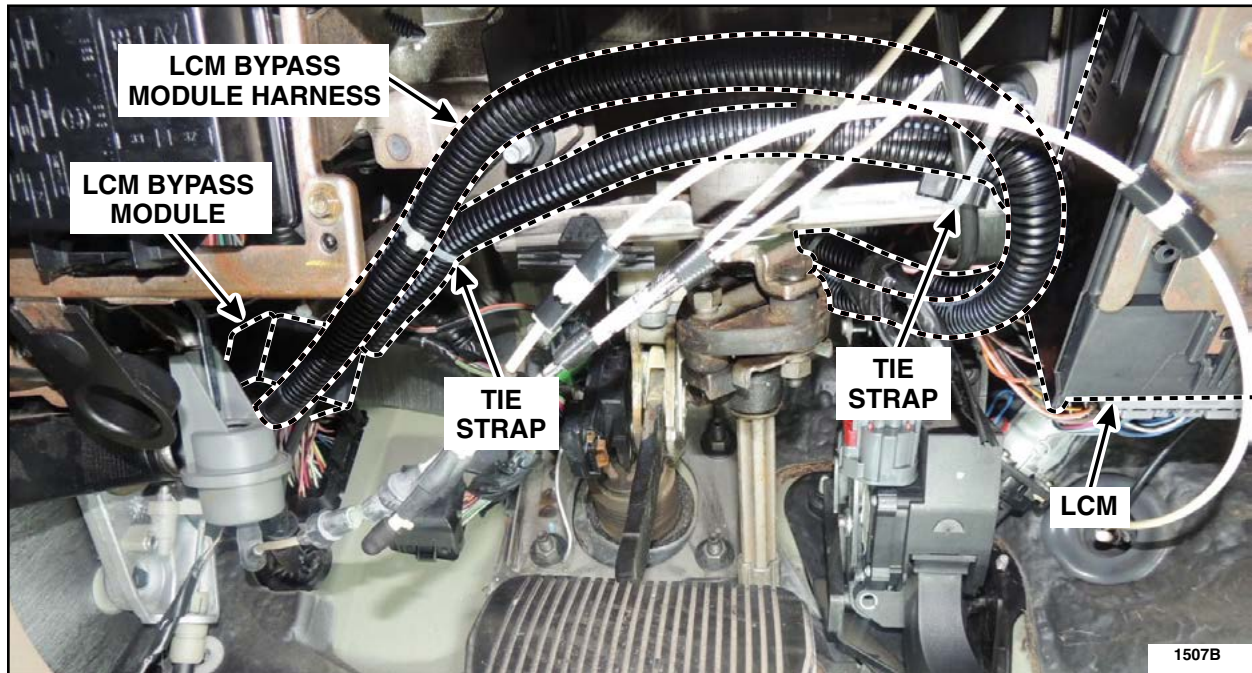

FIGURE 3
7. Route and secure the LCM bypass module harness as shown in Figure 3, using tie straps as necessary.